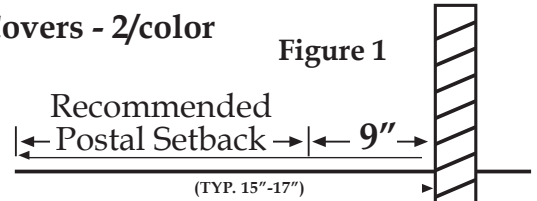

Figure 1
- 2) From post office recommended road setback line add 9" and mark position on ground for front edge of post. (See Figure 1)
- 2) From post office recommended road setback line add 20.5" and mark position on ground for front edge of post. *(See Figure 1)*